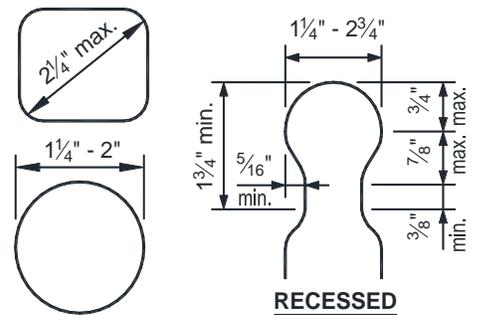

FIGURE 44: HANDRAIL GRASPABILITY
- Handrails shall have a smooth surface with no sharp corners and shall be graspable. Recessed sections may be shaped from a 2x6 or five-quarter board as shown in FIGURE 44.